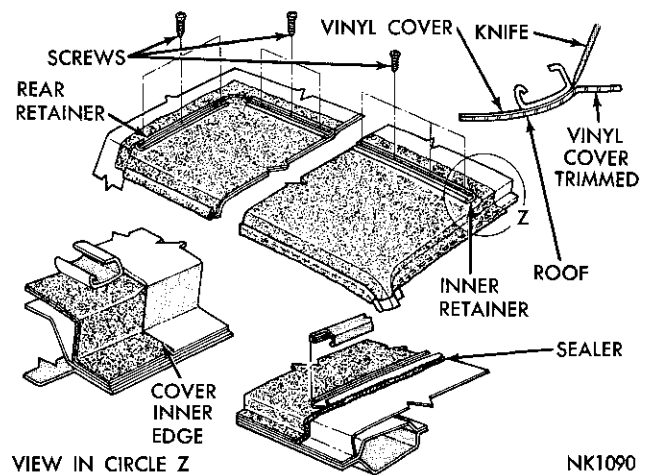

Fig. 185—Installing Roof Moulding Retainers (Station Wagon)
- (6) Locate and position the front, rear and outside moulding retainers to the roof panel (Fig. 185) and install the sealing screws (130 required).
- (7) Trim the excess material at the retainers (Fig. 185) at the inboard and rear sides by cutting along the inboard faces of the retainers.